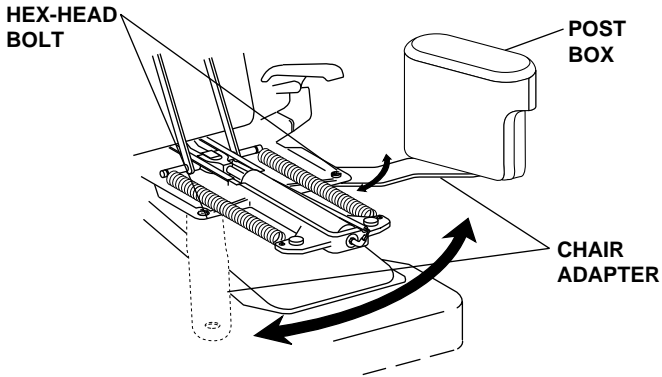

Figure 10. Left/Right Chair Mount Conversion
3. Unscrew and remove the hex-head bolt from the chair adapter (see Figure 10). Pivot the chair adapter post and the post box to the other side of the chair. Align the hole in the chair casting with the hole in the adapter post.